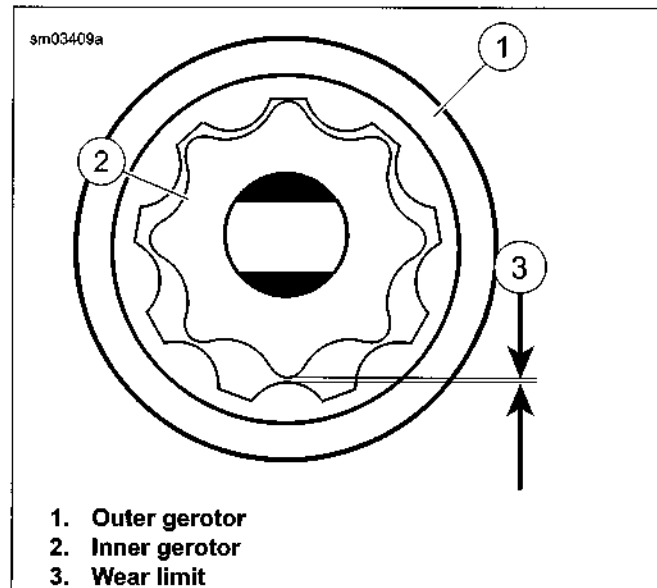

Figure 3-107. Gerotor Wear Limit
- See Figure 3-107. Inspect both gerotor sets for wear.